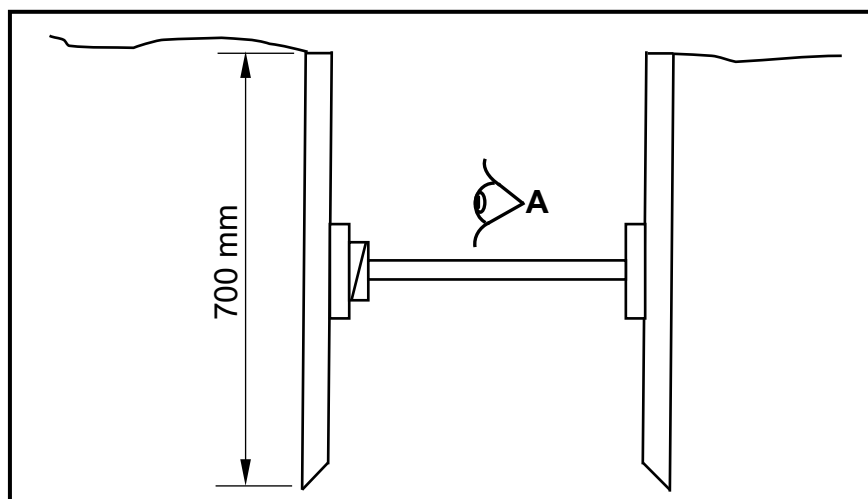

FIGURE 4.7
- 4.7 FIGURE 4.7 below shows the vertical sectional view of the shuttering for both firm soil and loose soil. (1)